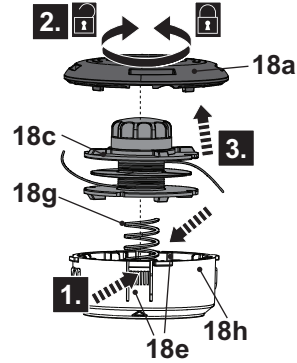

Fig. 29
5. Press the release latches (18e) on both sides and hold them in position (Fig. 29, step 1), then rotate the cover (18a) counter-clockwise to disengage it from the trimmer head (18) (Fig. 29, step 2).
6. Remove the cover (18a) and the trimming spool (18c) from the housing (18h) (Fig. 29, step 3).